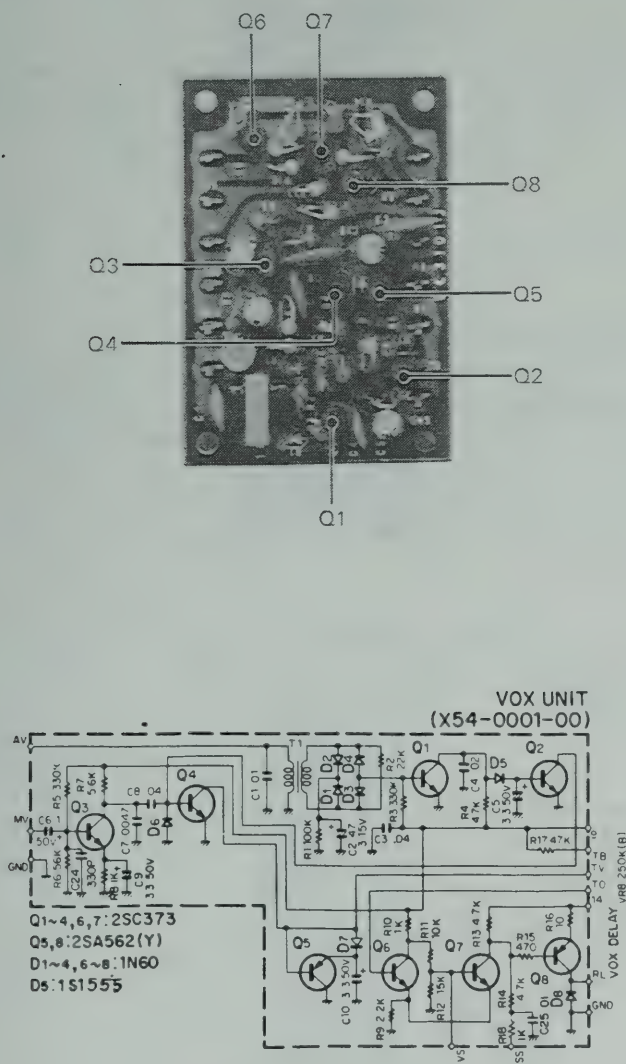

Figure 20 VOX Board
5.9 VOX BOARD (X54-0001-00) (See Figure 20)